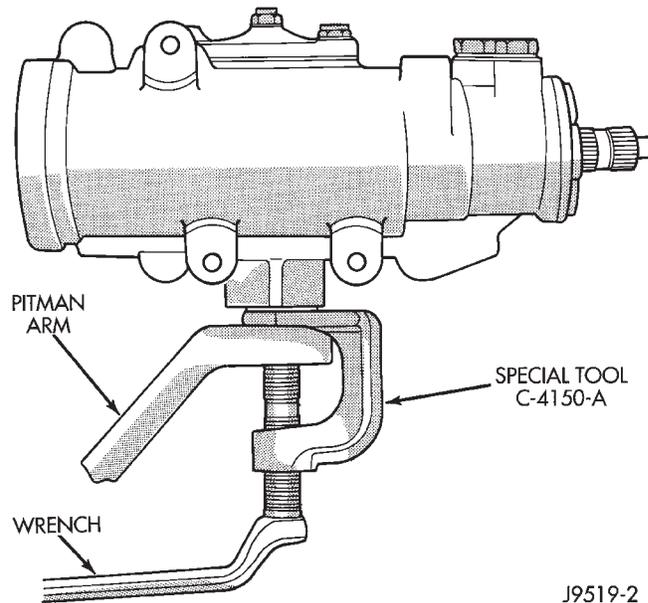

Fig. 4 Pitman Arm Removal
(1) Remove the cotter pin and nut from the drag link at the pitman arm.
(2) Remove the drag link ball stud from the pitman arm with a puller.
(3) Remove the nut and washer from the steering gear shaft. Mark the pitman shaft and pitman arm for installation reference. Remove the pitman arm from steering gear with Puller C-4150A (Fig. 4).